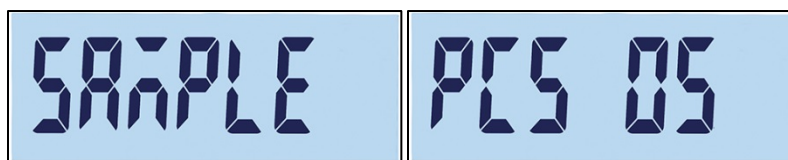

Figure 2-17: Reference Number
1. Press the counting function key . "SAMPLE" will be displayed, then "PCS 05", as shown in Figure 2-17.